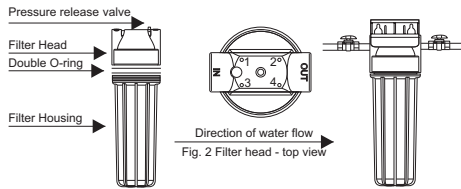

Fig. 1 Accessories for FHPR-HP model
- Unscrew filter head from the filter housing (Fig. 1) using a wrench. To prevent damage, hold the wrench exactly in horizontal position relative to the filter housing.